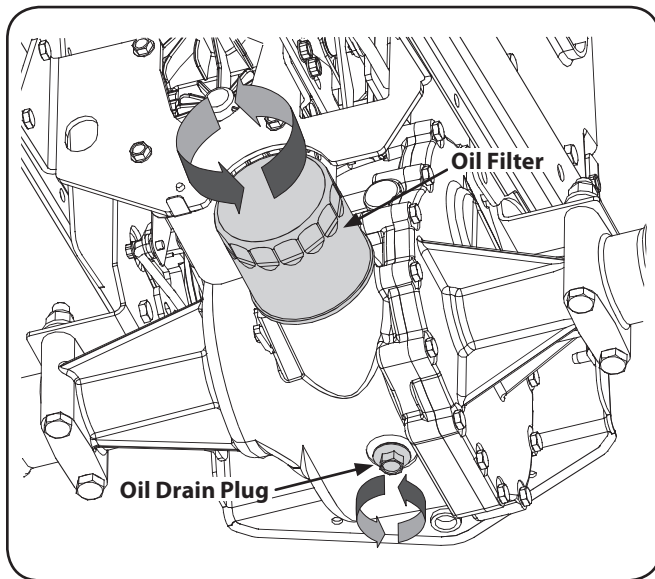

Figure 6-3
- Remove the drain plug and allow the transmission oil to drain into a clean container having a capacity of more than six quarts. Reinstall the drain plug. See Fig. 6-3.
- Clean around the base of the transmission oil filter and remove the filter by turning it counterclockwise. Refer to Fig. 6-3.